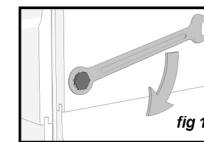

fig 1.
- Check that the sides are at right angles to the gables and to the floor, then tighten all coach screws to secure the sides and the gables. (fig. 1)